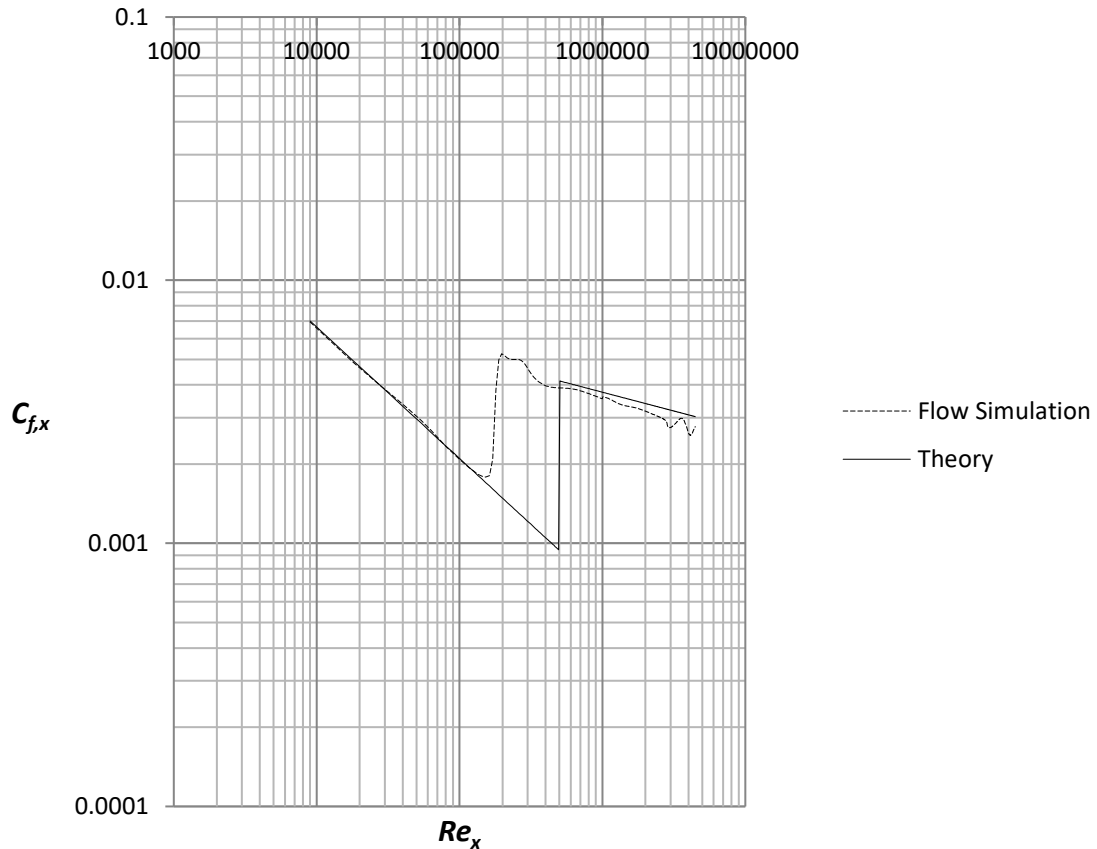

Figure 2.32 Flow Simulation (dashed line) and theoretical turbulent friction coefficients
32. Place the file “**graph 2.32**” on the desktop. Repeat step 24 and choose the sketch $x = 0 - 0.9 \text{ m}$, uncheck the box for **Velocity (X)** and check the box for **Shear Stress**. Rename the xy-plot to **Local Friction Coefficient for Laminar and Turbulent Boundary Layer**. An Excel file will open with figure 2.32. Figure 2.32 is showing the Flow Simulation is able to capture the local friction coefficient in the laminar region in the Reynolds number range 10,000 – 200,000. At $Re = 200,000$ there is an abrupt increase in the friction coefficient caused by laminar to turbulent transition. In the turbulent region the friction coefficient is decreasing again but the local friction coefficient from Flow Simulation is significantly lower than empirical data.